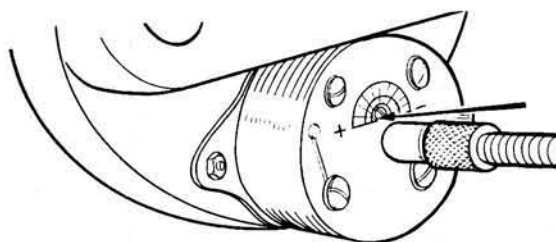

Fig.10.41. Clock adjusting screw
- 3 If the clock needs adjustment refer to Fig.10.41 and turn the small screw towards the minus sign if the clock is gaining and towards the plus sign if losing. The action of setting the hands automatically starts the clock.